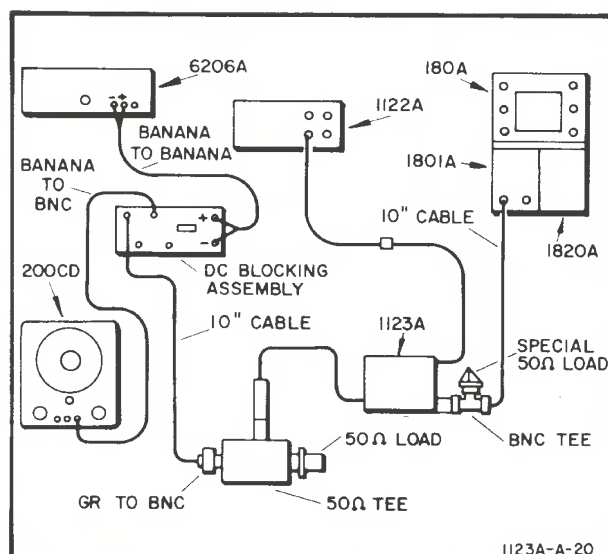

Figure 5-3. Compression Test Set-up
- Connect the equipment as shown in Figure 5-3.